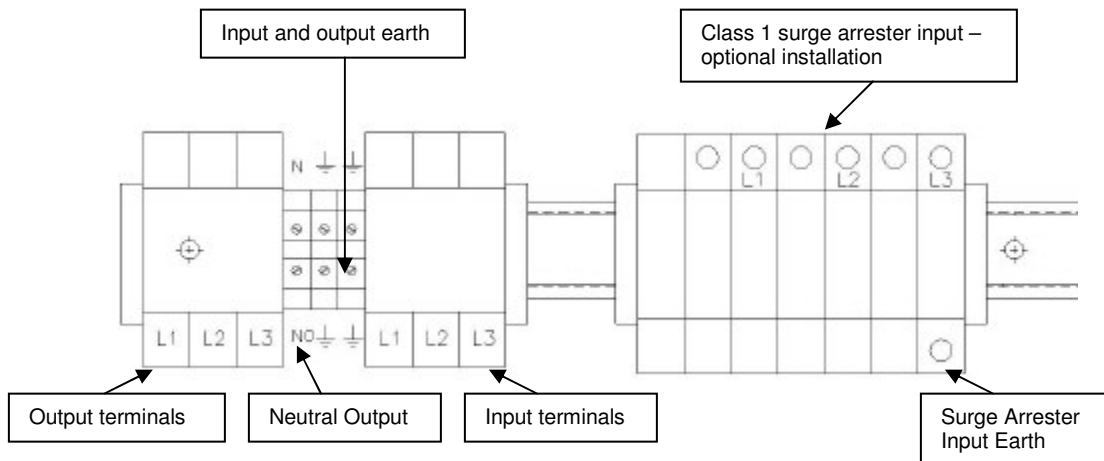

Figure 3b – Schematic diagram for Input and Output terminations with Optional connection with Class 1 surge arrester
Insert wire through the strain-relief connectors. Ensure that there is enough wire length to reach the respective terminal, take care to leave enough slack. Strip approximately 3/8" (or 10 mm) insulation from the end of each pair of (5) wires. Input terminals marked L1, L2, L3, E as illustrated in Figure 3b.
System with optional Class 1 surge arrester only - connect input cables terminals to surge arrester terminals L1, L2 and L3 as illustrated in Figure 3b
Connect 3 phase output cables to terminals L1, L2 and L3, output neutral NO and output earth, a total of 5 cables to the output terminals as shown in figure 3b.